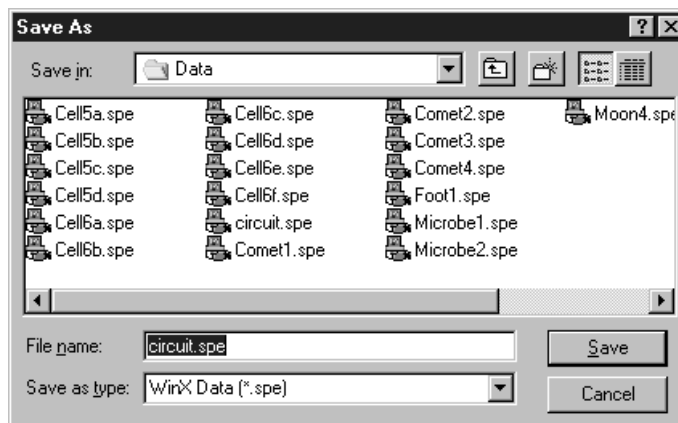

Figure 56. Data File Save As dialog box
1. Select **Save As** from the File menu. The Data File Save As dialog (Figure 56) appears.